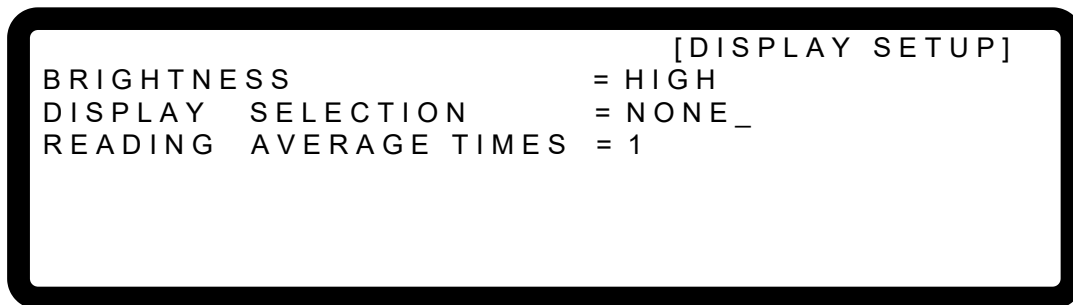

Figure 3-55
1. In Config setting page, press "**4**" to display the screen and "**ENTER**" to enter into DISPLAY SELECTION as Figure 3-55 shows.
2. Use "**←↑**", "**↓→**" keys to move the cursor to the column to be set as Figure 3-55 shows.
3. Use the numeric keys (**0** ~ **3**) or "Rotary" () knob to select the desired setting. There are 4 selections on the MAIN PAGE : (1)**NONE**, (2)**V/I LIMIT**, (3)**V/I/P PROTECT** and (4)**V/I SLEWRATE**. The system default is **NONE**.